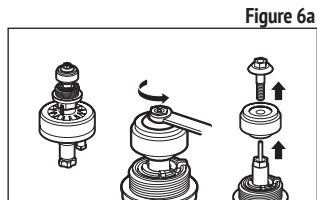

Figure 6a
2. Using pliers, or a 5/16 in. wrench, remove the seat washer screw by turning counter clockwise and pull off the 3/4 in. seat washer assembly (see Fig. 6a).